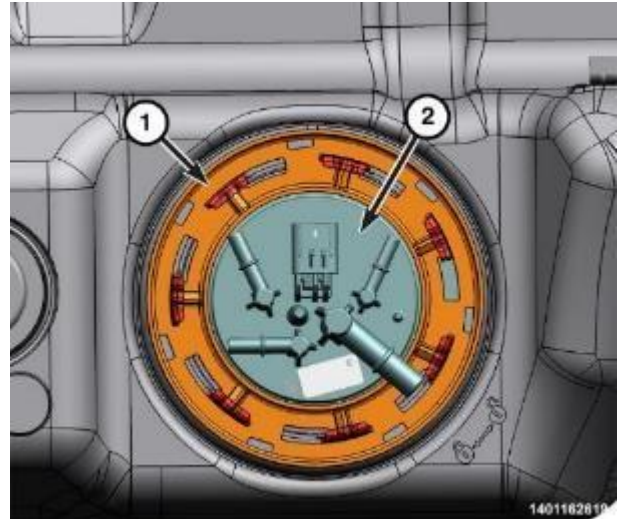

Figure 83 – Tank Connections
- 154. Position the lock ring (1) over top of the fuel pump module (2) (Figure 83).
- 155. Rotate the fuel pump module (2) until the embossed alignment arrow points to the center alignment mark or the same position as noted during removal. This step must be performed to prevent the float from contacting the side of the fuel tank (Figure 83).
- 156. Install the 9340 SAE Fuel Pump Lock Ring Wrench in the notches on the outside edge of the lock ring (1) (Figure 83).